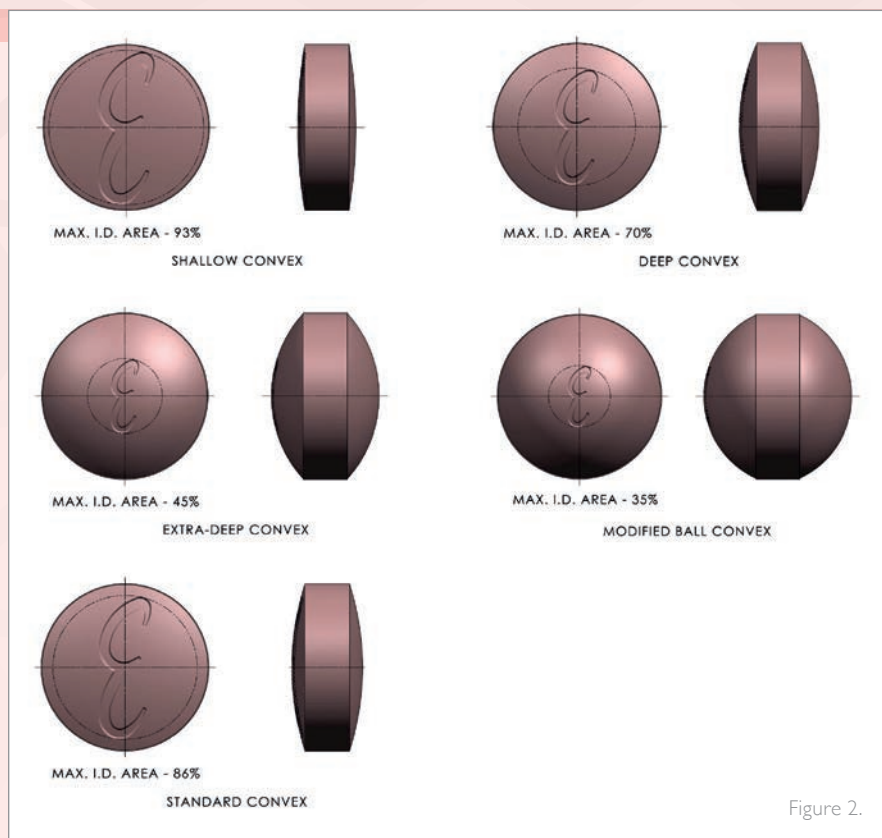

Figure 2.
- Identification. The area available for identification on a tablet, such as the addition of a logo, depends on the cup radius and the style of cup, as well as the geometrical shape of the debossing, including the depth and angle needed. The flatter the geometry of the tablet's cup, the larger the available area for identification. If the debossing is placed too close to the perimeter of the tablet, you'll lose clarity of the debossing (see figure 2).